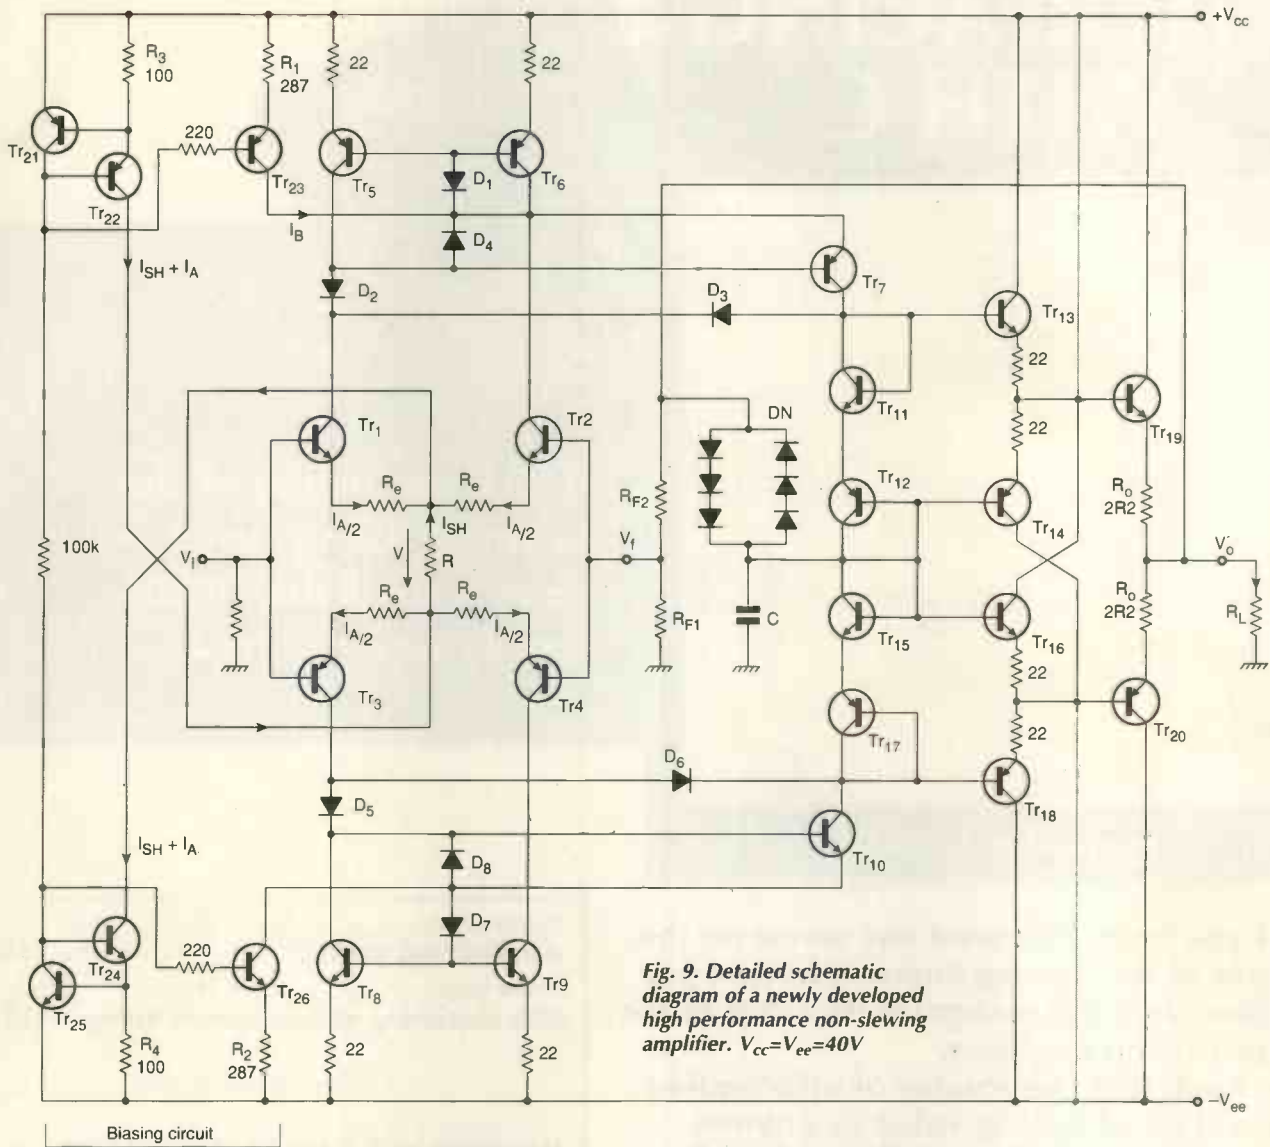

Fig. 9. Detailed schematic diagram of a newly developed high performance non-slewing amplifier.  $V_{cc}=V_{ee}=40V$
**Component list for the non-slewing amplifier prototype, Fig. 9.**
Some of these drawbacks can be overcome via the amplifier of Fig. 9. It features the noise and offset performance of conventional amplifiers, yet retains the speed capabilities of high slew-rate architectures. In this design, second as well as first-order slew rate limitations are virtually eliminated. This makes the definition 'non-slewing amplifier' applicable.
Circuitry around  $Tr_{11-14}$  serves as a voltage follower to drive  $Tr_{19}$ , while  $Tr_{15-18}$  do the same job for  $Tr_{20}$ . Transistors  $Tr_{14}$  and  $Tr_{16}$  have their collectors connected as shown in Fig. 9 to increase – when necessary – the input impedance of the output stage. This may be needed for instance in high closed loop gain configurations. In power applications however, it is usually safer to connect them to their respective supply rails.